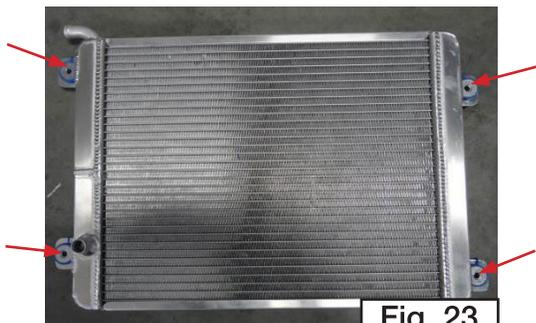

Fig. 23
23. Place all four rubber grommets onto the heat exchanger, washer side facing the front of the vehicle (Fig. 23). Insert the .40" diameter aluminum spacer into the center of each grommet.